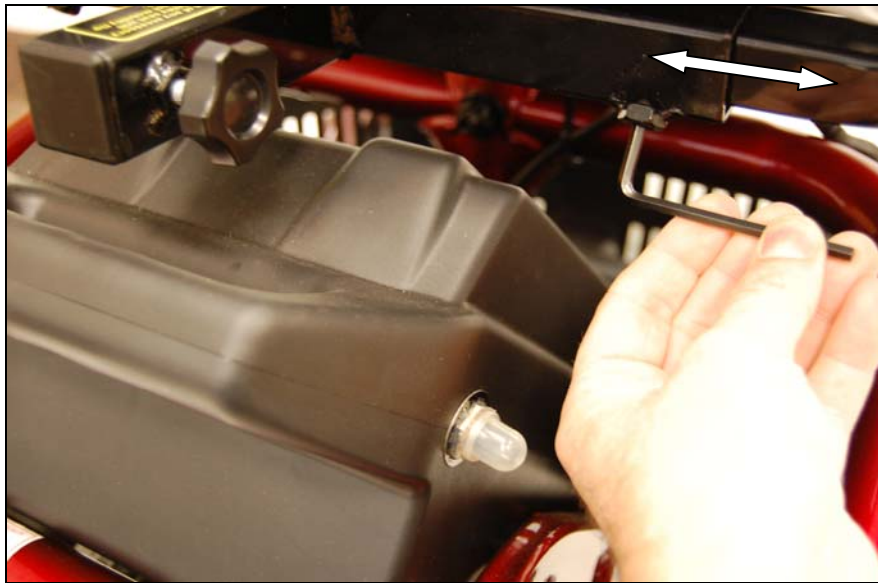

Figure 5
1. Loosen the arm width adjustment screw from the arm receiver tube at the bottom rear of the seat frame with a 4mm Allen wrench. See figure 5.
1. Use a 4mm Allen wrench to remove the arm width adjustment screw from the arm receiver tube at the bottom rear of the seat frame. See figure 5.